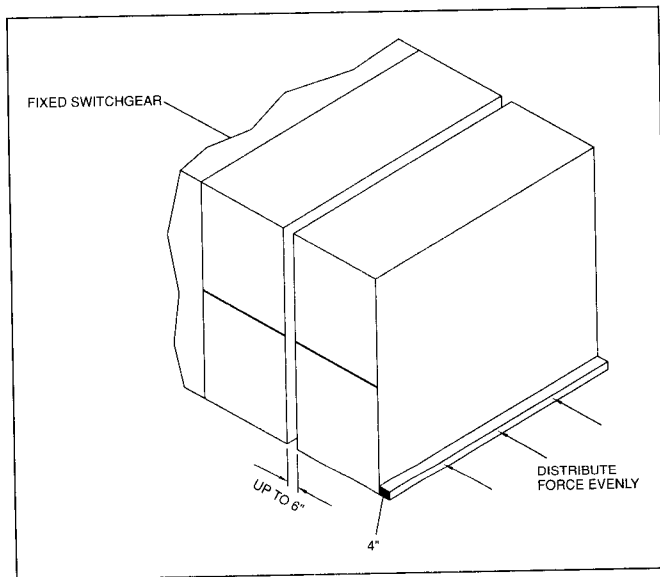

Figure 4. Moving Switchgear in Obstructed Areas without a Crane—Final Positioning
Figure 4 shows a method of moving the switchgear into the final position, after it has been moved near to the final position using another method.
7. Where top lift capability is not available, protect the switchgear bottom with support timbers and move with jacks and rollers just to the side of its final position. Remove rollers, shipping pallets and other packaging materials and remove jacking facilities. Clear any obstructions. The equipment may be slid sideways up to 6 inches (152mm) to join the shipping split. Any sliding force must be carefully applied across the bottom 4 inches (100mm) of the switchgear side with proper cribbing to fully distribute the force across the full depth of side. See **Figure 4**.